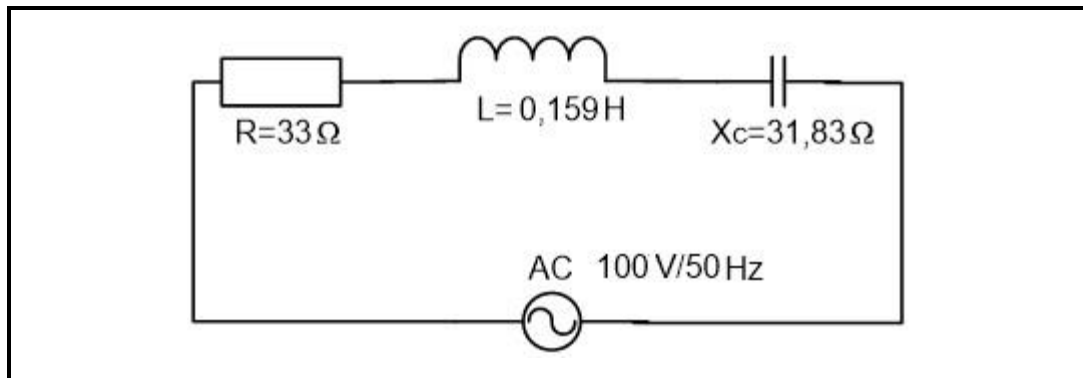

FIGURE 6.4
- 6.4 Refer to the circuit diagram in FIGURE 6.4 and answer the questions that follow.